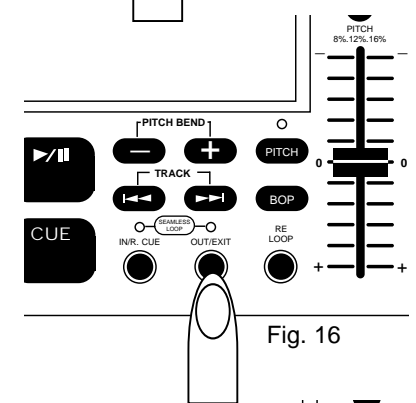

Fig. 16
- (1) To exit a SEAMLESS LOOP, press the **OUT/EXIT BUTTON (18)**. The **IN/R. CUE** and **OUT/EXIT LEDs** will remain on, but will stop flashing. Music will resume normal play (Fig. 16)
loops cue point. (Fig. 16). This disengages the SEAMLESS LOOP mode and allows you to edit the loops ending point.
- (2) Press **OUT/EXIT BUTTON (18)** again for a new loop ending point (Fig. 16).
- (3) **FOR A SHORTER LOOP:** Press the **OUT/EXIT BUTTON (16)** at sooner point in the track.
- (4) **FOR LONGER LOOP:** Press the **OUT/EXIT BUTTON (16)** at later point in the track.
- During normal playback, pressing the **TIME BUTTON (9)**, will change the display time display information (47) to one of the following settings: